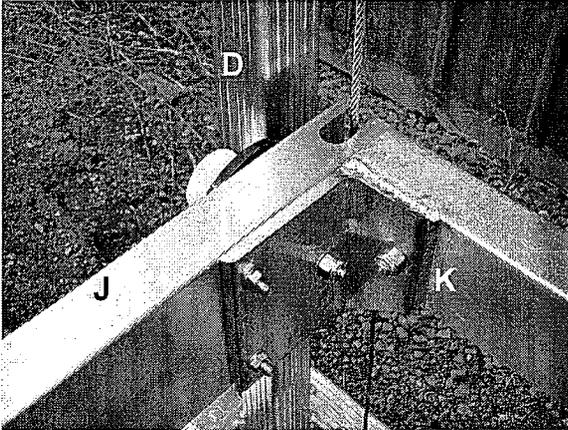

FIG. 21
1. Locate the cable end protruding from the front carriage cross beam J (See FIG. 21).
2. Assemble 1/2" bolt, 1/2" washer and aluminum spacer tube. Slide cable loop over bolt assembly. Attach assembly to side frame plate. Attach with 1/2" nyloc lock. (See FIG. 21 & 22.)